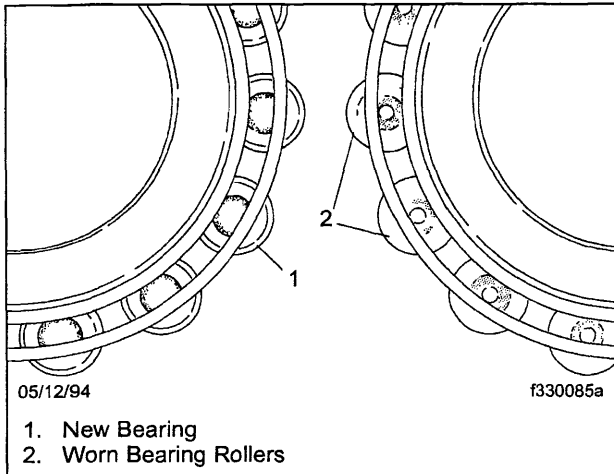

Fig. 7, Wheel Bearing Roller Wear
- Large ends of rollers worn flush to the recess, or radii at the large ends of the rollers worn sharp (see Fig. 7);